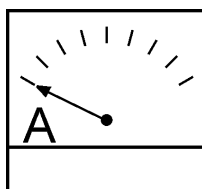

Figure 48. Ammeter
8. The ammeter (Figure 48) will indicate **zero amps** with no load applied. When a load is applied, the ammeter will indicate the amount of current that the load is drawing from the generator.